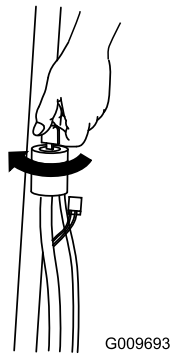
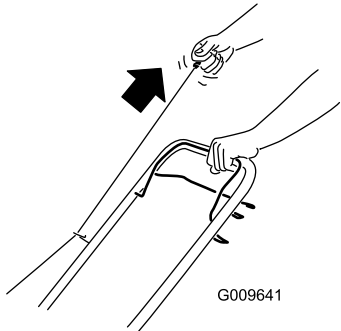

Figure 10
Figure 11
2. Turn the ignition key (Figure 10) (electric-start models only) or pull recoil start handle (Figure 11).